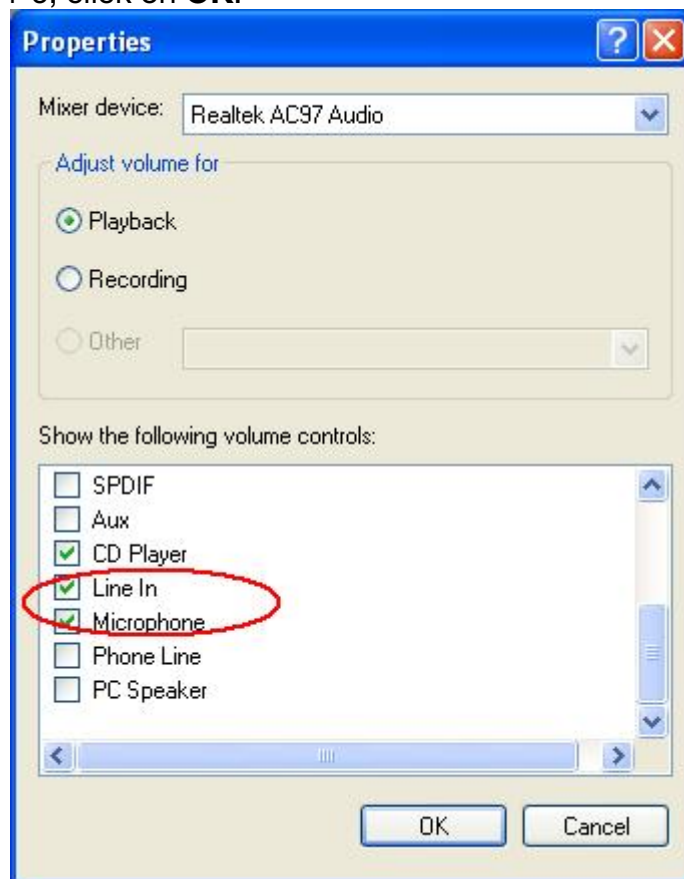

Figure 4-6 Properties
- c) If the line in or/and microphone volume control is/are not shown in the Volume Control menu, click on **Options > Properties**, tick **Line In** and **Microphone** as shown in figure 4-6, click on **OK**: